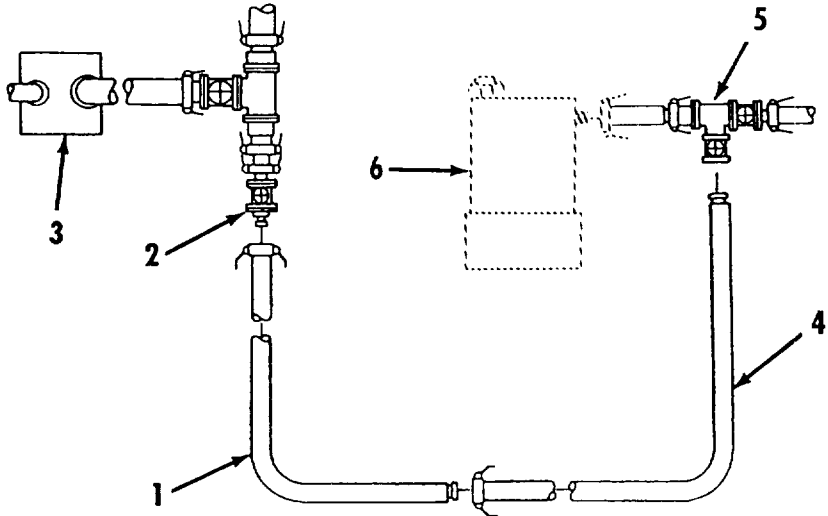

Figure 2-23. Fuel System - Secondary 600 GPM Pump Fuel Bypass Hose.
- o. Fuel System Secondary 600 GPM Pump Fuel Bypass Hose. Refer to figure 2-23.